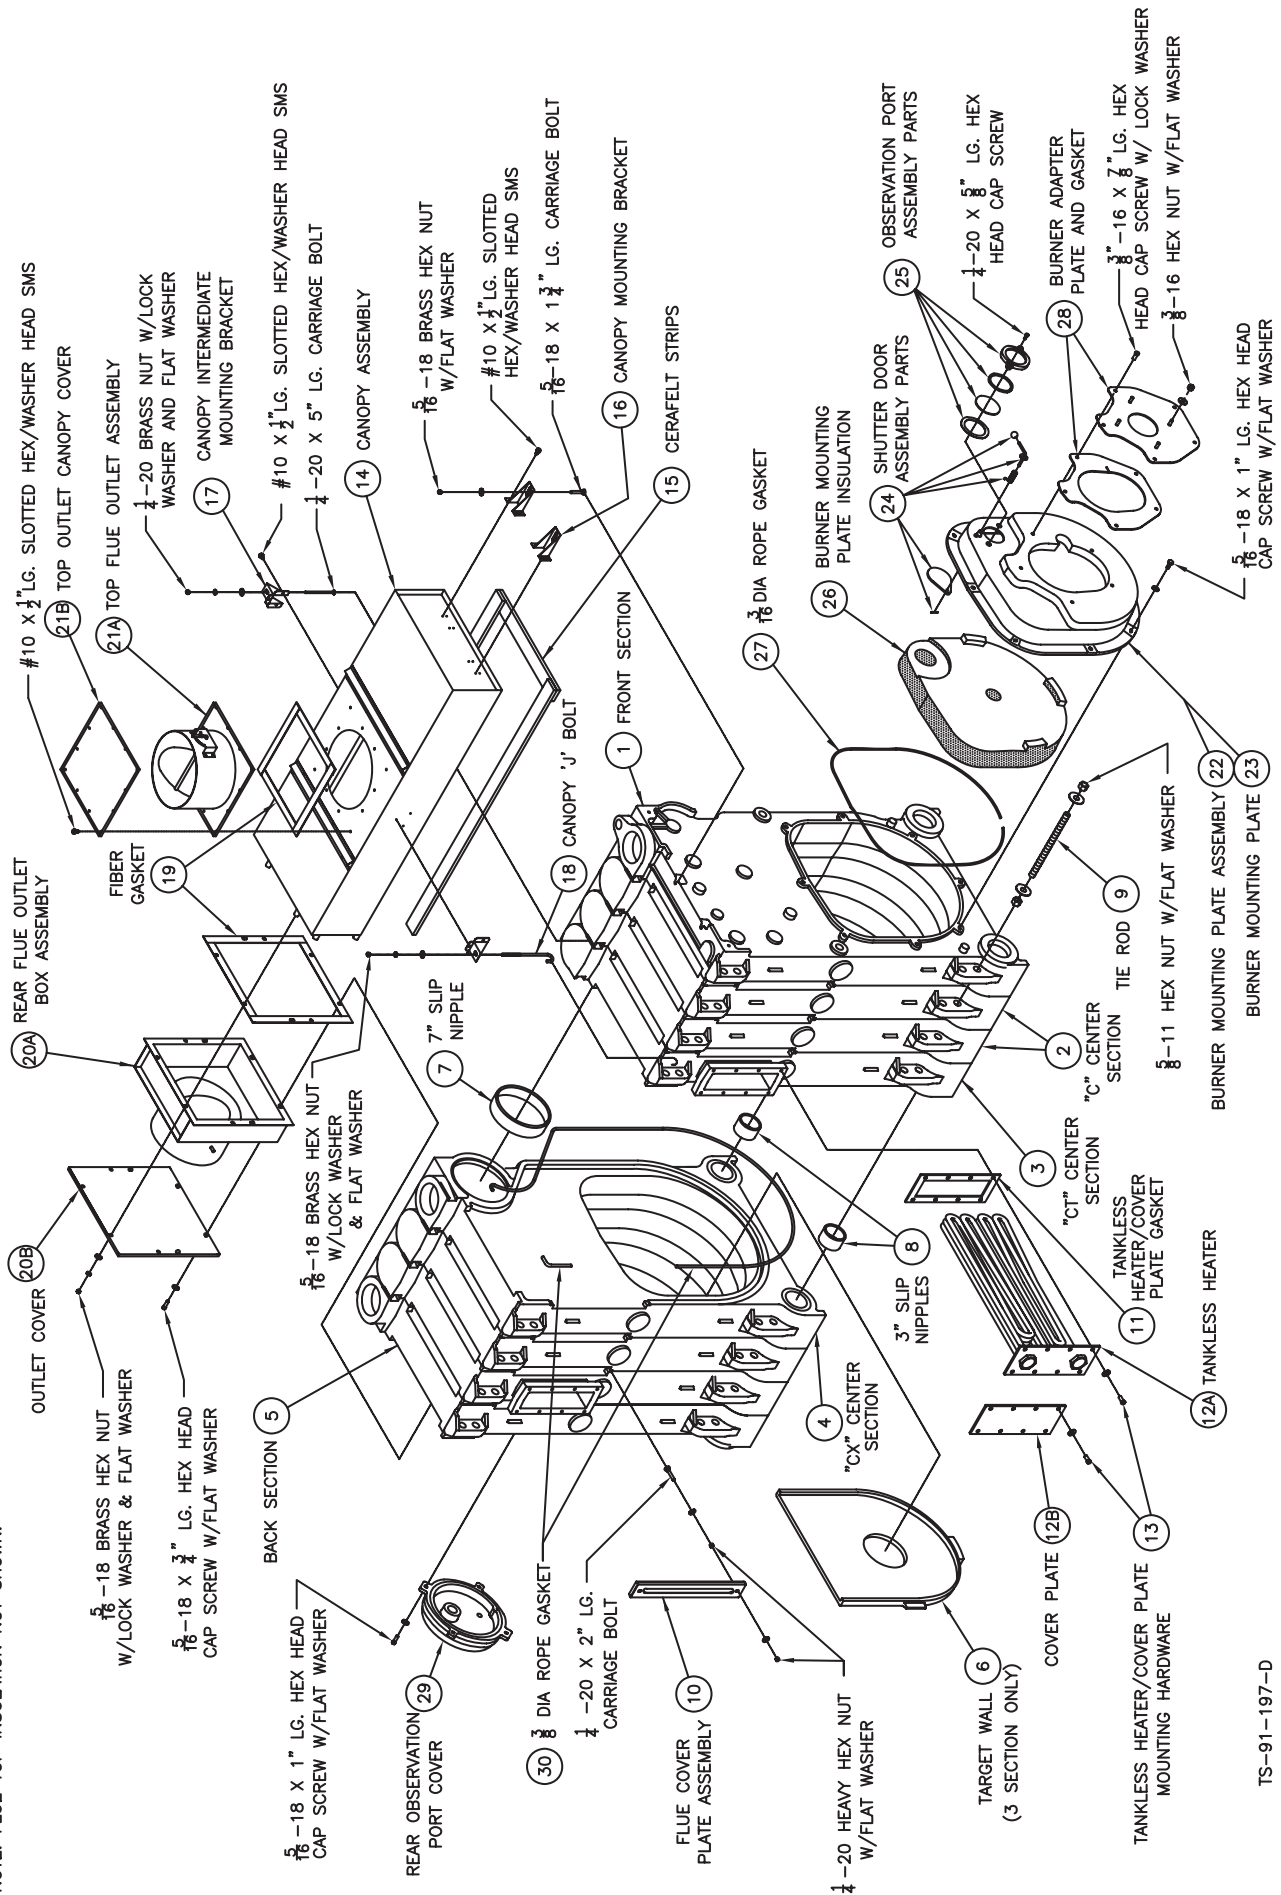

Figure 16: Bare Boiler Assembly
Refer to Figure 16.
F. BURNER MOUNTING PLATE - Refer to Figures 16 and 23.
3. Engage bottom slot on burner mounting plate with matching bolt in bottom tapping of front section. Align mounting holes and fasten the mounting plate to the boiler sections with seven (7) remaining 5/16" cap screws and washers. Fully tighten all bolts.
Refer to Figures 16 and 23. ALSO, REFER TO BURNER INSTALLATION MANUAL FOR INSTRUCTIONS SPECIFIC TO EACH BURNER.